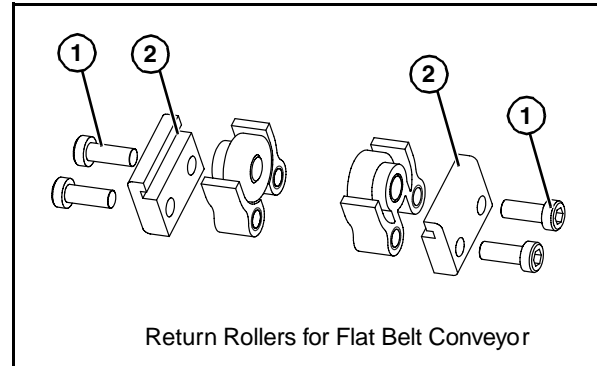
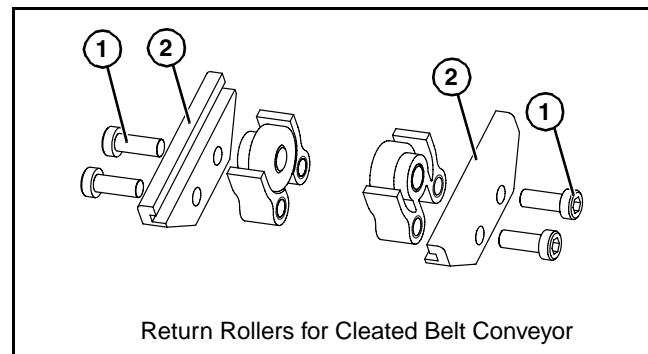

Figure 17
Figure 18
1. Locate return rollers. Exploded views shown in Figure 17 & Figure 18.
2. Remove screws (**Figure 17, item 1**) & (**Figure 18, item 1**) and clips (**Figure 17, item 2**) & (**Figure 18, item 2**) from roller assembly.